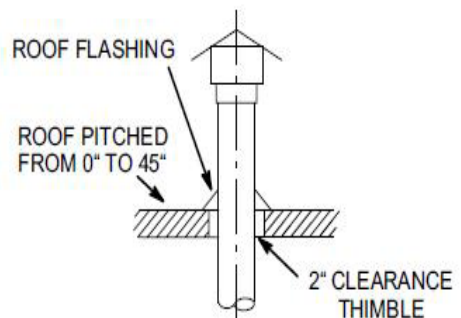

Fig.3
1. These unit heaters are to be used with NFPA- or ANSI- approved chimneys or U.L. listed type B-1 gas vents, single wall metal pipe, or listed chimney lining system for gas venting where applicable, as well as the modifications and imitations listed in figure 3. Seal single wall vent material according to section General Recommendations and Requirements.
9. When termination is routed through combustible wall, vent termination must be supported using a firestop to maintain clearances specified on unit rating plate. Where local authorities permit, a B-1 vent insert may be used as an alternative to the firestop. Refer to figure 3 for additional notes regarding B vent. Inside edge of vent termination must be at least 12" (305mm) from outside wall.